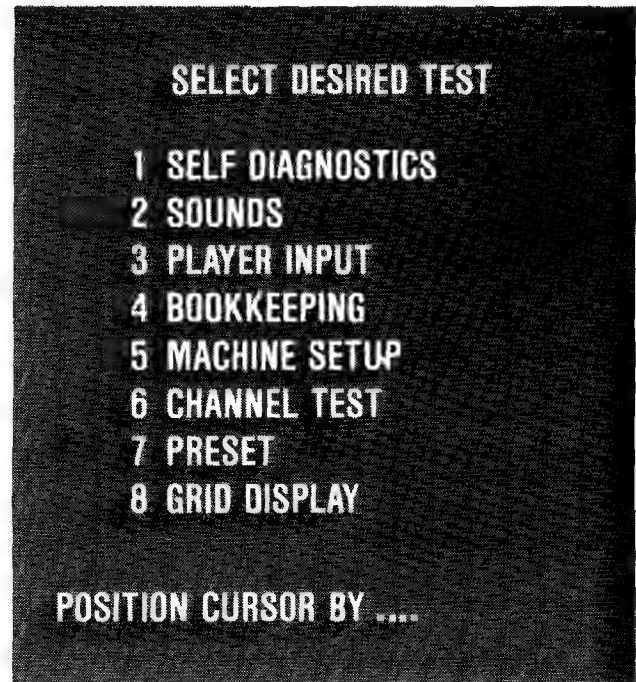

Figure 2-1 Self-Test — Menue
The Self-Test mode has eight (8) major categories as illustrated by Figure 2-1.